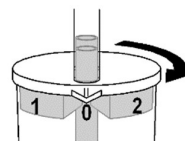

Fig. 2
3. For normal suction, rotate the jar until the arrow of the lid points at an open area ("0") (Fig.2).